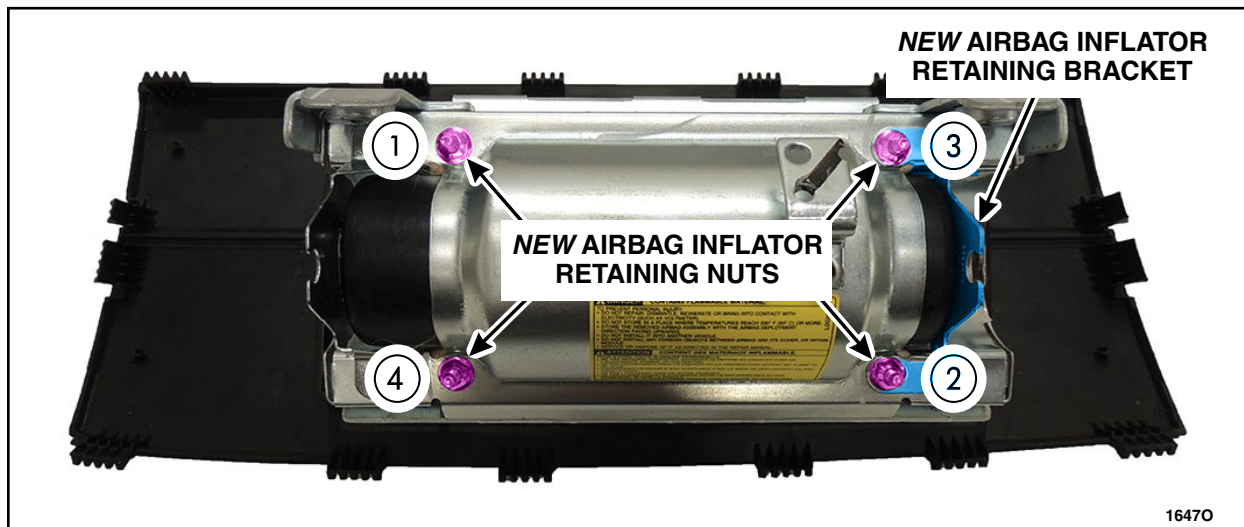

FIGURE 10
12. Install the *new* passenger airbag inflator retaining bracket and *new* nuts. See Figure 10.